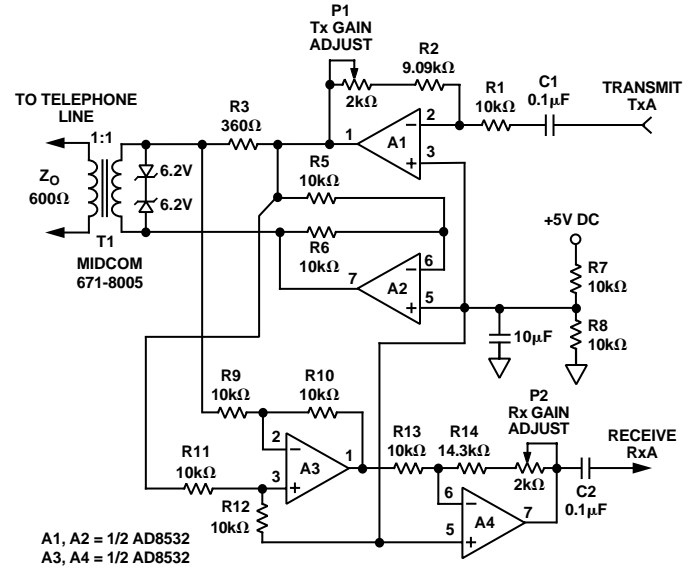

Figure 42. A Single-Supply Direct Access Arrangement for Modems
Figure 42 illustrates a +5 V only transmit/receive telephone line interface for 600 Ω transmission systems. It allows full duplex transmission of signals on a transformer coupled 600 Ω line in a differential manner. Amplifier A1 provides gain that can be adjusted to meet the modem output drive requirements. Both A1 and A2 are configured to apply the largest possible signal on a single supply to the transformer. Because of the high output current drive and low dropout voltage of the AD8531/AD8532/AD8534s, the largest signal available on a single +5 V supply is approximately 4.5 V p-p into a 600 Ω transmission system. Amplifier A3 is configured as a difference amplifier for two reasons: (1) It prevents the transmit signal from interfering with the receive signal and (2) it extracts the receive signal from the transmission line for amplification by A4. A4's gain can be adjusted in the same manner as A1's to meet the modem's input signal requirements. Standard resistor values permit the use of SIP (Single In-line Package) format resistor arrays. Couple this with the AD8531/AD8532/AD8534's 8-lead SOIC or TSSOP footprint and this circuit offers a compact, cost-sensitive solution.